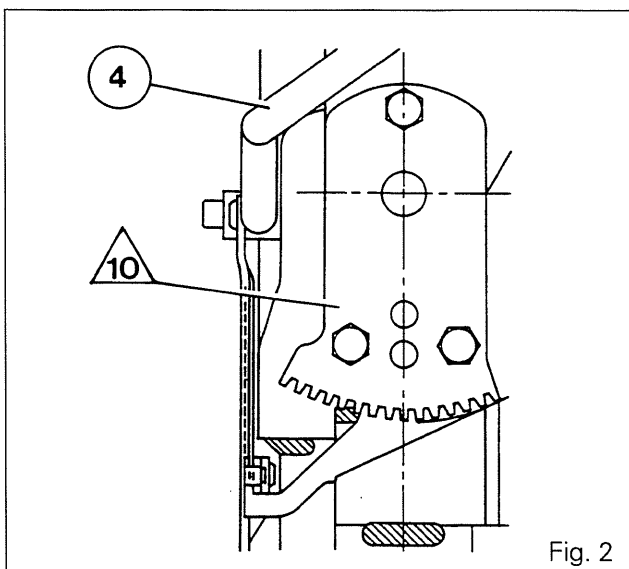

Fig. 2
22. Compress spring (7). Position the rack /10\ as per Fig. 2 to avoid any interference with lever (4). Fit and tighten bolts (6) after coating them with Loctite 241.
23. Refit the lever (4), rod T and spring (3). Replace the retaining washers (1) and (2).
24. Adjust the lever (4), with rod T in contact with the notched lever (9), using the adjusting screw [5] (3 mm Allen wrench).
44. Fit the bearings (22) in the housing (20) using a suitable fixture.
45. Assemble the upper shaft (12) on the bearings (22). Fit the circlip (23).
46. Assemble the lower shaft (29) equipped with bushes (30) and circlip (31) on the fixed column (28).
**Note: Deform the column tube by striking it with a punch so as to lock the bushes (30) in position.**
47. Reassemble the housing (20) and mobile column (21) assemblies. Fit pins (18) and (19). Crimp pin (18).
48. Refit the springs (17).
49. Compress spring (7). Position the rack /10\ as per Fig. 2 to avoid any interference with lever (4). Fit and tighten the bolts (6) after coating them with Loctite 241.
50. Adjust the lever (4), rod T in contact with the notched lever (9) using the adjusting screw [5] (3 mm Allen wrench).